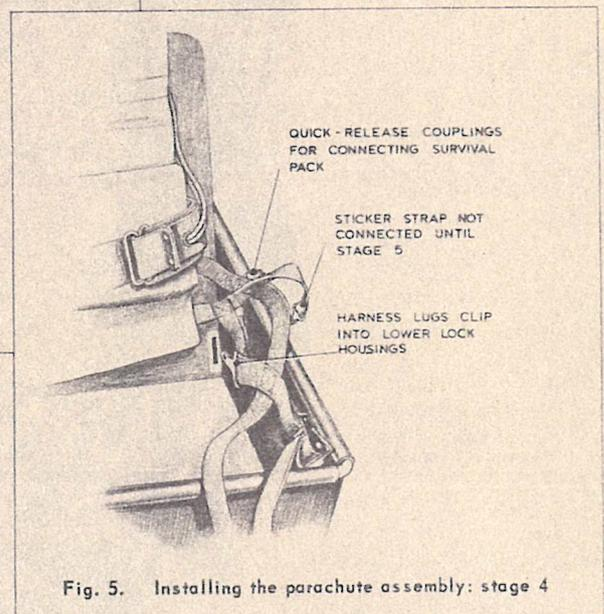

Fig. 5. Installing the parachute assembly: stage 4
- (23) Insert the main attachment lugs on the harness lap straps into the lower locks at the back of the seat pan (fig. 5); they will clip into place. Check, by pulling in several directions, that they are secure.
- (24) Insert the sticker strap lugs into the clips on the inside face of the seat pan (applicable only if a Mk. 23 parachute assembly is installed; for Mk. 33 parachute assembly, defer until operation 28).
- (25) Lift the combined harness and hold in the stowed position by pushing the lugs on the harness shoulder straps between the headrest restraining straps and the side of the drogue box.